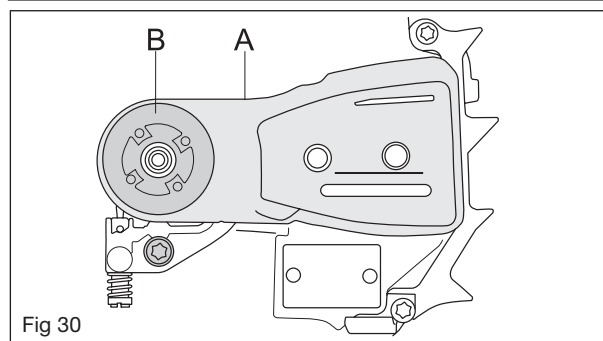

Fig 30
Remove the chain guide plate (A) and the pump drive wheel (D). See Figure 30.
Assemble the pump drive wheel, chain guide plate, needle bearing, clutch drum and centrifugal clutch. See Figures 30, 29 and 28 for "Dismantling the oil pump and screen".